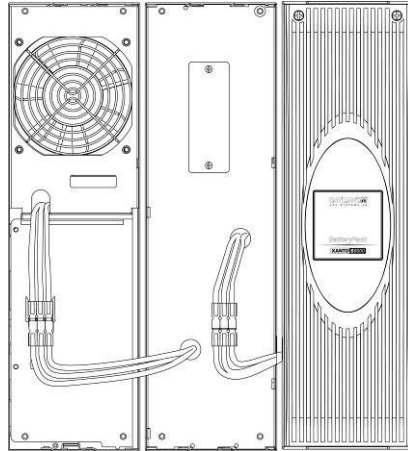

Figure 5: XANTO S 6000VA with BP, Tower (front view)
6. Stick the cable of the battery module into the battery connection of the UPS system (see Figure 5). Up to four batteries can be connected to the UPS system.